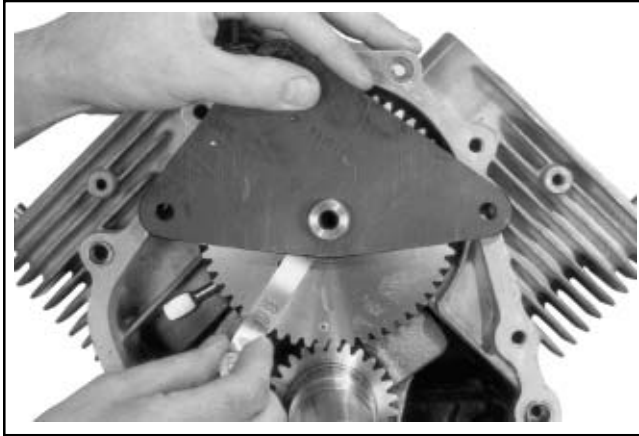

Figure 11-14. Checking Camshaft End Play.
- Position the camshaft end play checking tool on the camshaft. See Figure 11-14.